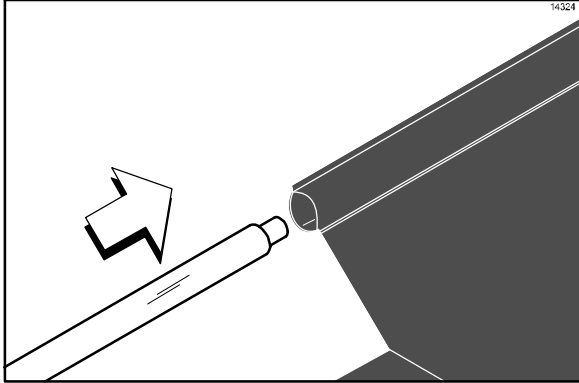

Figure 11
1. Slide the release material retention bar through the loop in the release sheet. (See Figure 11.)